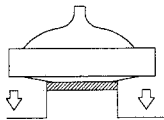

Fig. 4-4.
7. Mount the set on the base so that the centre of picture tube is aligned with the centre of the base. Then, lower the cabinet slowly. (Fig. 4-4)